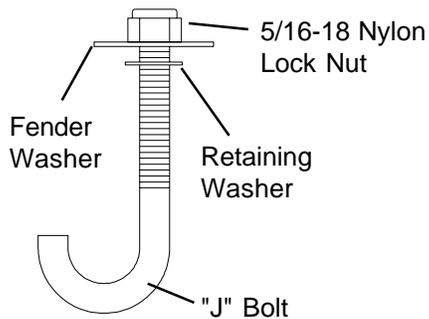
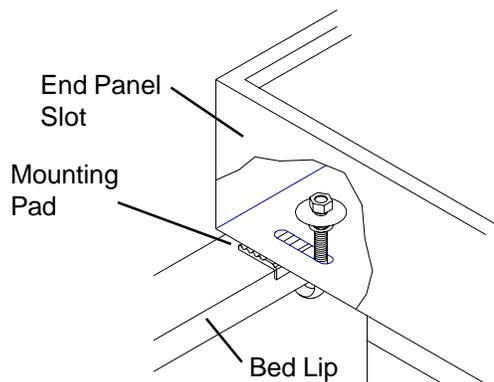
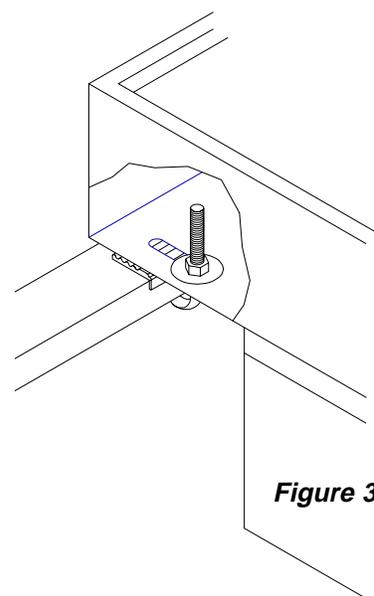
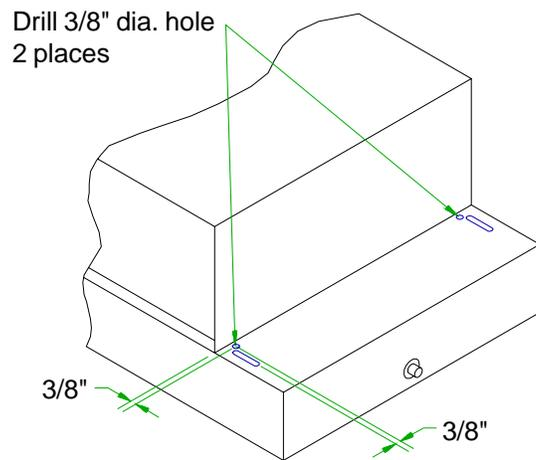

Figure 1.
Figure 2.
Figure 3.
Figure 5.
NOTE: If installing on a Toyota Tundra with "J" bolts, you will have to turn box over and drill 3/8" dia. holes 3/8" in from the Partition and stagger 3/8" in from the slots (see Figure 5.) Assemble "J" bolts onto box before setting the box into the truck. (See Figure 1) Turn "J" bolts to the side to avoid hitting top of bed when placing box into bed.
3. Attach the Retaining Washer, Fender Washer and Nylon Lock Nut finger tight to the top threads of the "J" bolt (see Figure 1.). Insert the "J" bolt through the end panel slot (see Figure 2.). Pull the "J" bolt upward by the Nylon Lock Nut so that it hooks under the bed lip. For a Dodge pickup with a cab protector, lead the "J" bolt into the drilled hole. Slide the Retaining Washer further onto the "J" bolt by pushing it down with the Fender Washer to hold it in place. Tighten the Nylon Lock Nut (see Figure 3.). Repeat this for the remaining three "J" bolts.